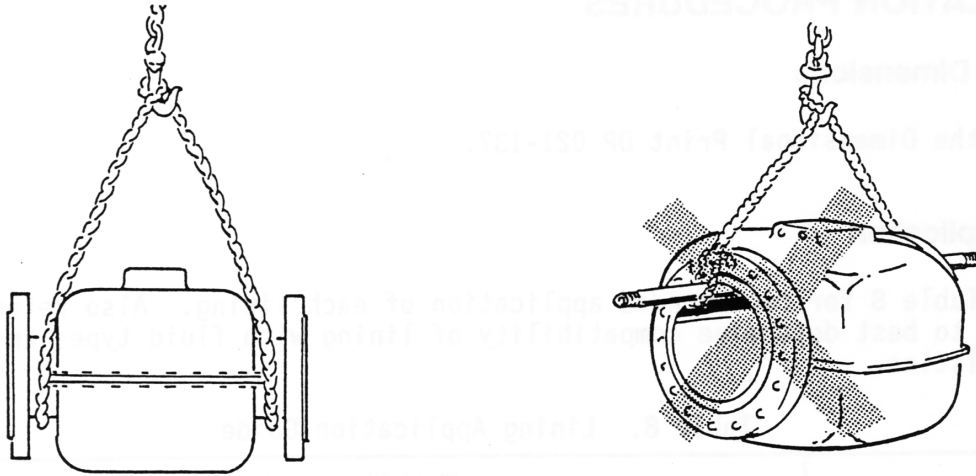
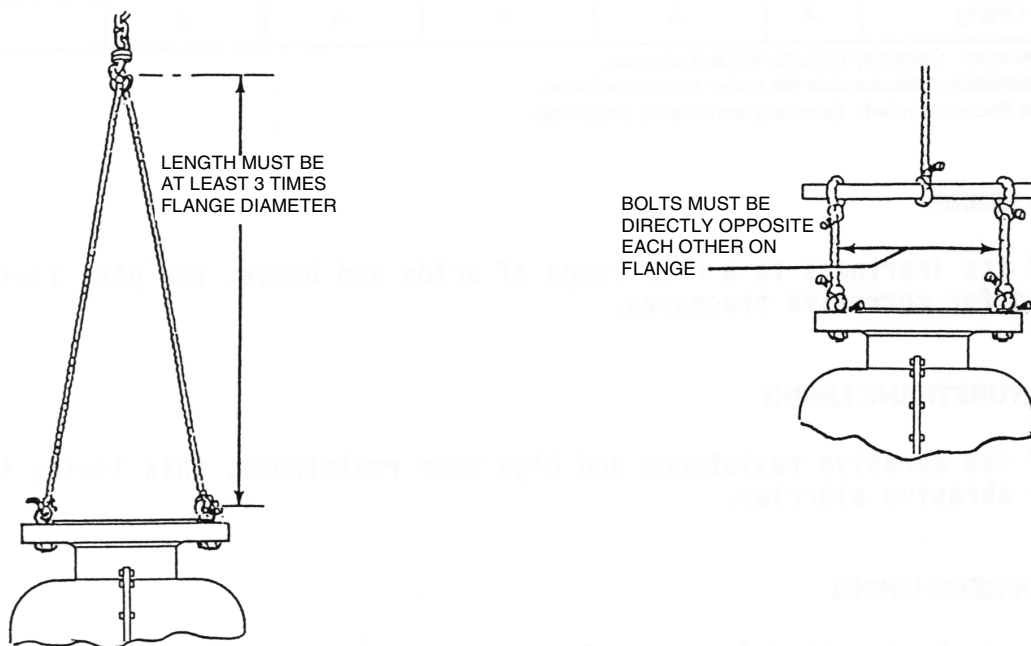

Figure 3. Lifting Flanged Flowtube for Horizontal Mounting
Figure 4. Lifting Flanged Flowtube for Vertical Mounting
2. Do not use the housing to support or lift the flowtube. Figure 3 and Figure 4 show correct and incorrect methods for lifting the flowtubes. Note that in Figure 3 (horizontal lifting), the suggested approach is to place the lifting rope between the flange and flowtube body. For vertical lifting, shown in Figure 4, the use of eye bolts